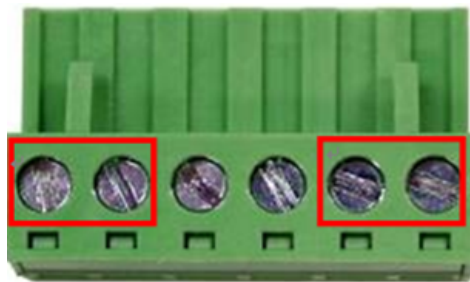

Figure 2.4 - Power Terminal Block
2. Tighten the wire-clamp screws to prevent the wires from loosening, as shown below in Figure 2.4.